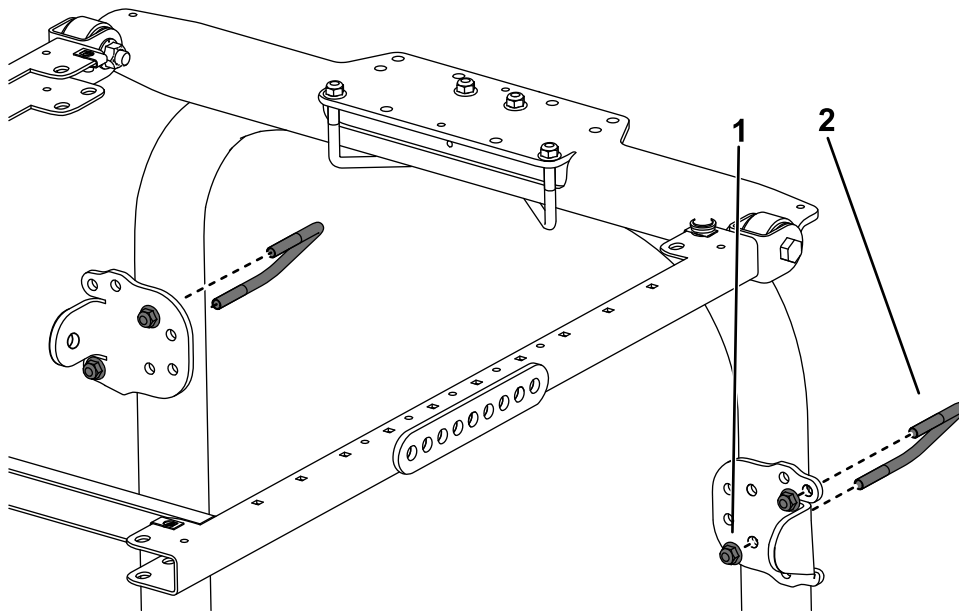

Figure 23
8. Using the mounting holes shown in Figure 23, loosely secure each of the brace brackets to the roll bar posts with a U-bolt (3-7/8 x 2-3/4 inches) and 2 flange nuts.